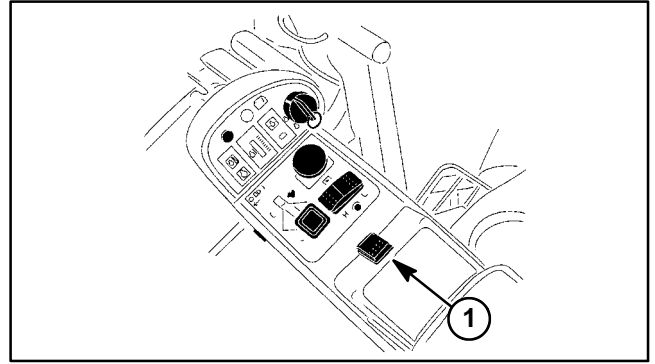

Figure 14
On the Groundsmaster 4500-D, a single lift switch on the console arm is used to raise and lower the five (5) cutting decks (Fig. 14).